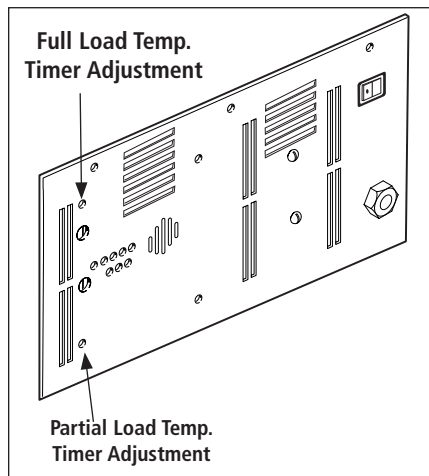

Figure 3. Timer Adjustments
10. If the times are correct, calibration is complete. If the times are not correct, adjust the timers located at the rear of the toaster (Figure 3).